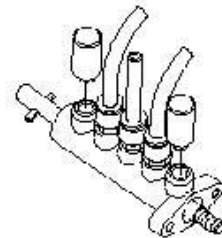

Fig. 5-3
- Adjust the pneumatic valve screw (Figure 5-3).